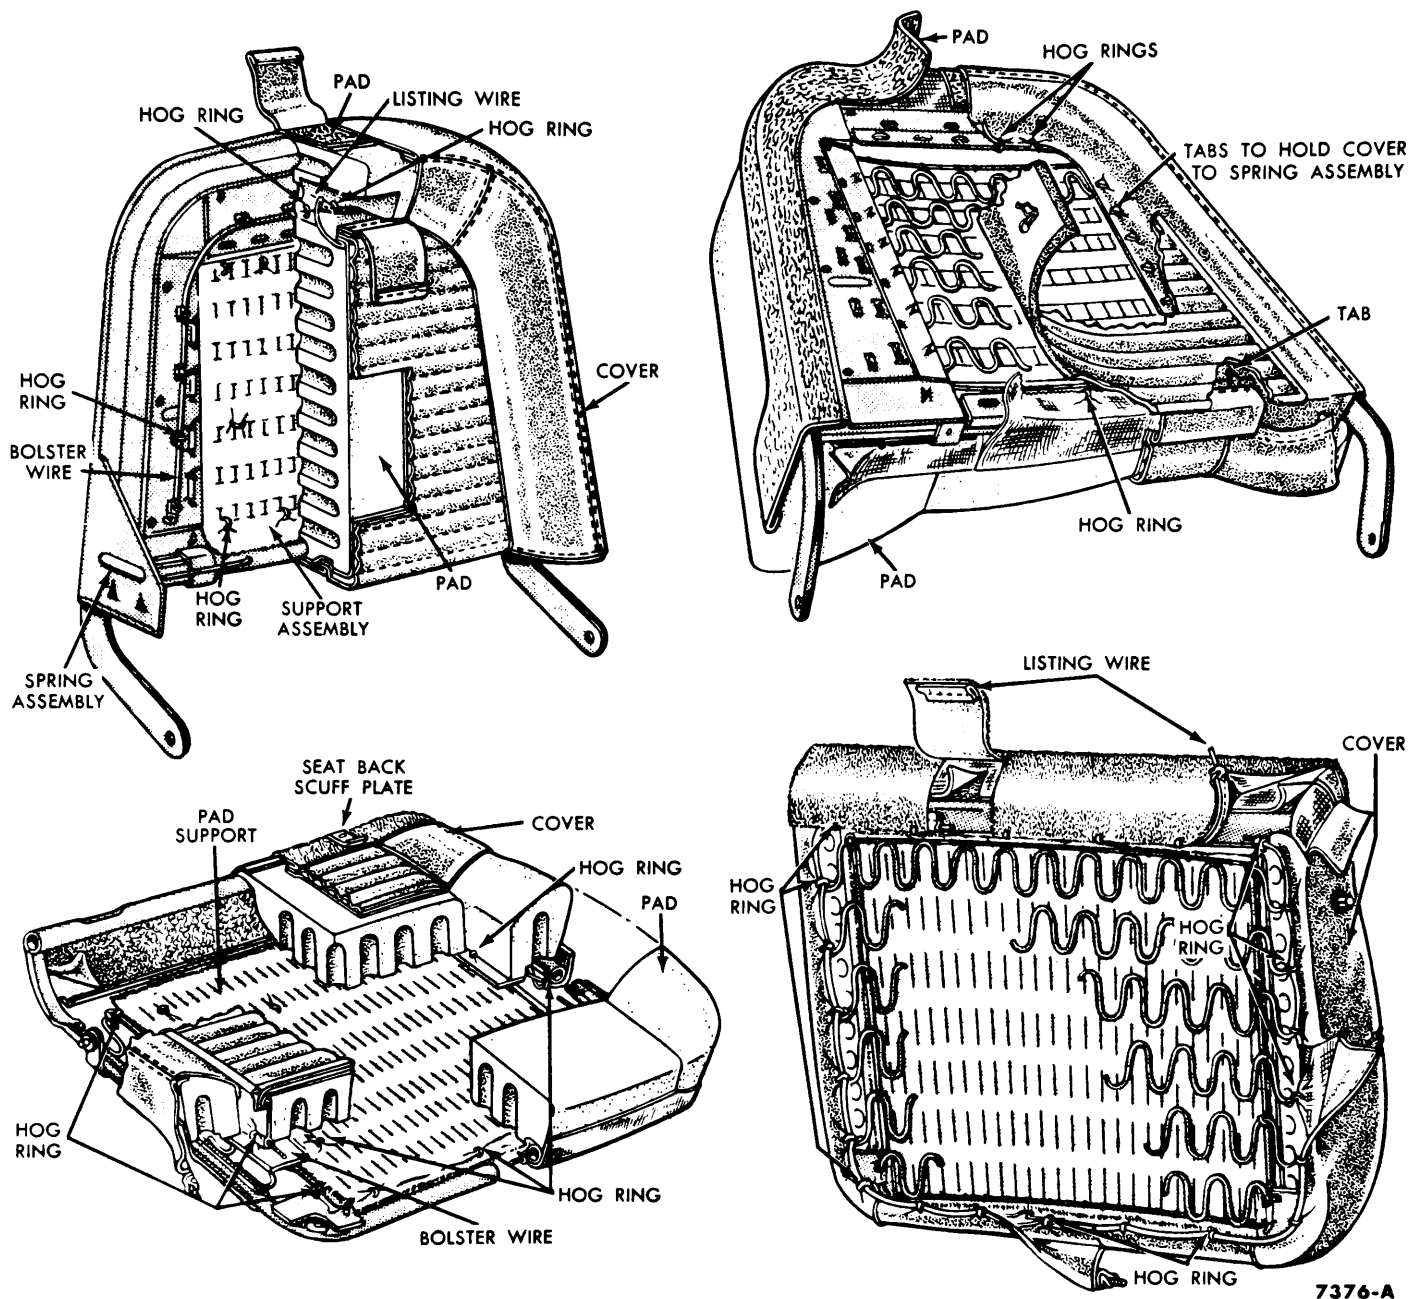

FIG. 3—Front Seat Back and Cushion
When installing a new seat cover or pad, refer to Figs. 3 and 4 for the location of listing wires, hog rings, anti-squeak pads, and seat pad stack-up.
1. Remove the two seat back scuff plates and remove the hog rings retaining the seat cover on the seat frame (Fig. 3). Separate the bottom facing from the cushion cover insert and allow the facing to remain cemented to the foam rubber pad. Remove the cushion cover.
1. Remove the two seat back stops and remove the panel cover from the front seat back (Fig. 3). Remove the hog rings from the seat back assembly, bend the tabs up on the seat back, and remove the seat back cover.
1. Remove the five screws retaining the upper outside moulding and remove the moulding (Fig. 3).